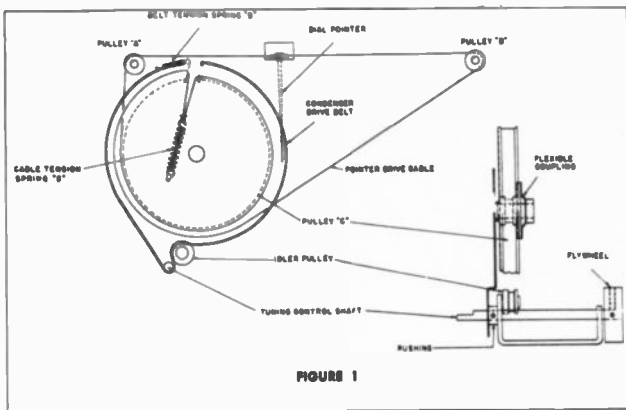

FIGURE 1
Two types of drive mechanisms are used to transmit the motion from the dial tuning knob to the large pulley that is coupled to the condenser gang. These two arrangements are shown on Figures 1 and 2. The cable used to drive the dial pointer is strung the same on all CR-190A and CR-190B receivers. Separate instructions for installing a replacement belt or string on the CR-190A or CR-190B chassis are given below.
**CR-190A Condenser Drive Belt Replacement**—Hook one end of the belt on the right hand edge of the slot in pulley "C" so that the smooth side contacts the pulley surface. Keeping the belt near the back of the groove in pulley "C" wrap it in a clockwise direction around that pulley (as indicated by the arrows on Figure 1) over the idler pulley and under the tuning control shaft; then around the opposite side of pulley "C". One end of the belt tension spring is hooked on the free end of the belt and the other end on the left-hand edge of the slot in pulley "C", completing the operation.